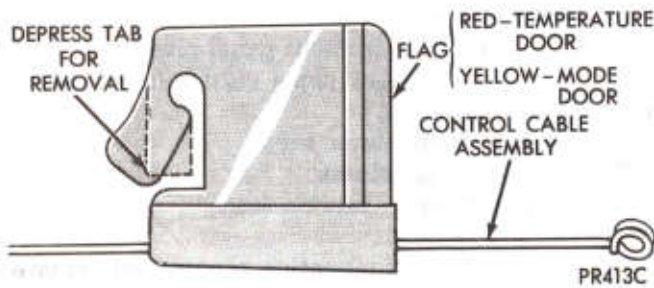

Fig. 4—Flag Tab Depressed for Removal
- (1) Remove faceplate (see "Faceplate Removal").
- (2) Open glovebox past stops.
- (3) Remove control unit from instrument panel (see "Heater Control Removal").
- (4) Remove cables from control lever pins and remove flags from retainers (Figs. 4 and 5).